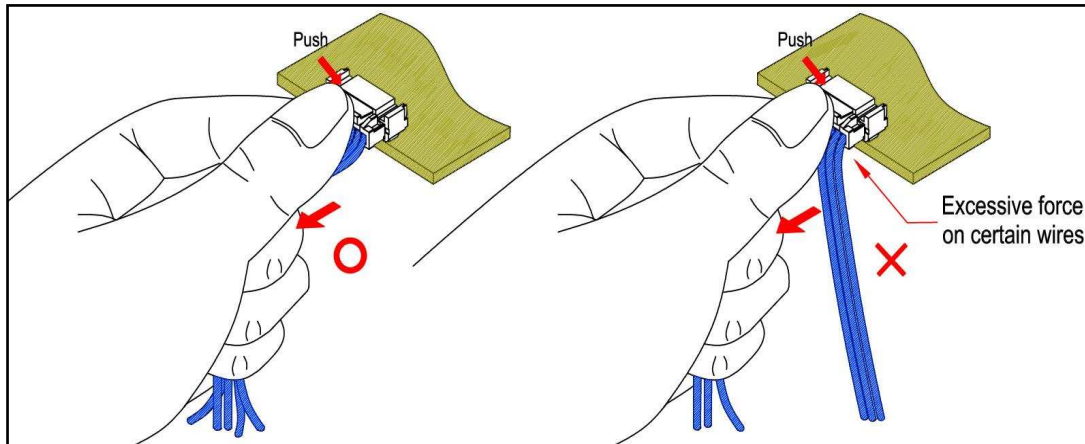

figure 4.2
4.2 Please hold all wires equally to prevent excessive force on certain wires. excessive force could lead to damage. (see figure 4.2)